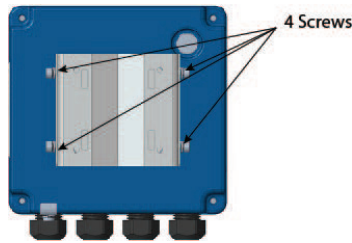

Figure 7: Rotatable adapter plate
4. If necessary, you can rotate the mounting bracket in 90° increments to accommodate the final orientation of the transmitter. From inside the enclosure, remove the 4 screws holding the bracket. Rotate the bracket and replace the screws. See Figure 7.